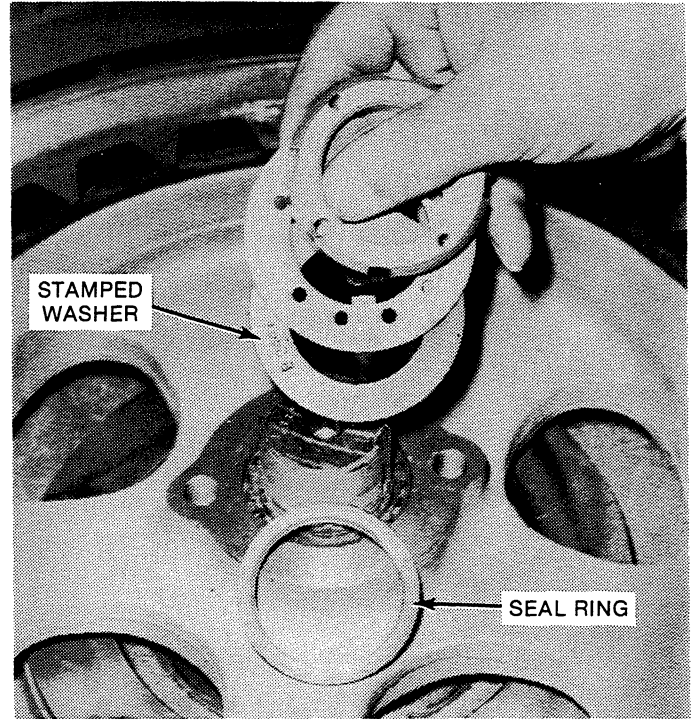

Figure 6-28. Bearing Locknut, Bearing Lockwasher, Stamped Washer, and Rectangular Seal Ring Removed.
11. Remove the bearing lockwasher (Figure 12-2, 46) and stamped washer (42). See Figure 6-28.